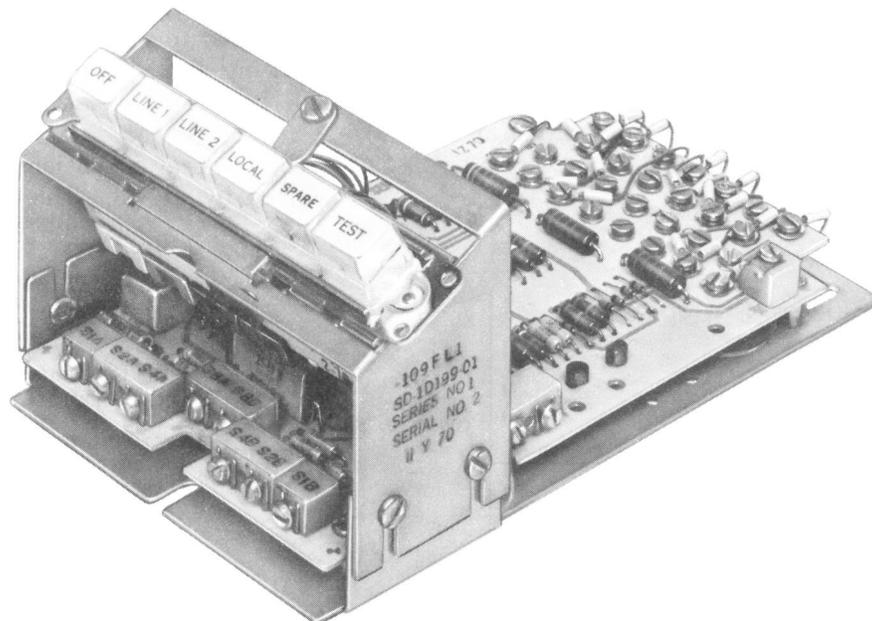

Fig. 1—Data Set 109F—Front View
1.01 This practice provides information on the Data Set 109F (Fig. 1). A physical and functional description of the data set is provided along with general information on the application and system where this data set is used. This practice covers only the DATREX applications for this data set.